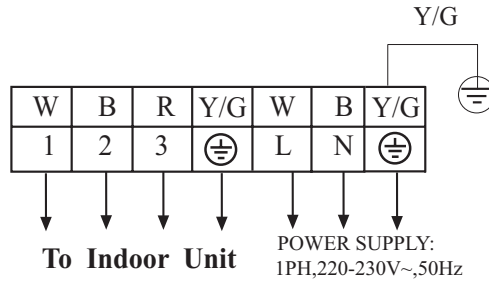
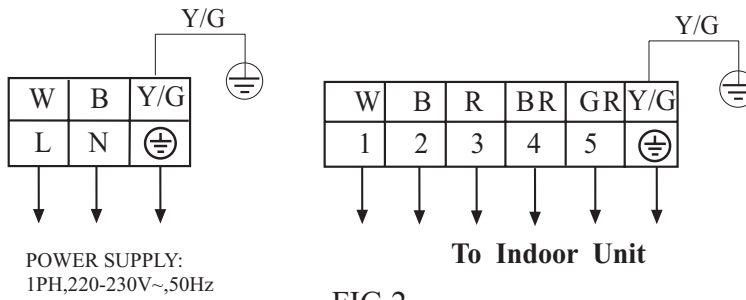
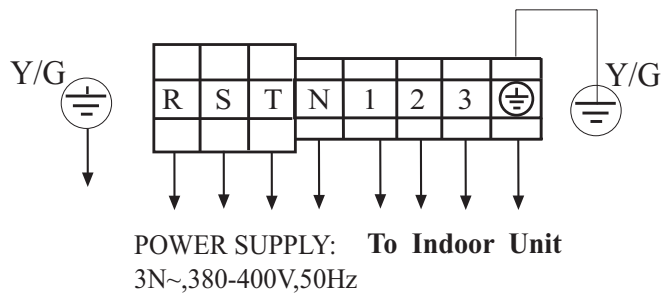

FIG.1
FIG.2
FIG.3
DO NOT CONNECT THE NEUTRAL WIRE (N) TO (R) , (S) OR (T) PHASE. INTERCONNECTING WIRES MUST BE WIRED ACCORDING TO FIG.1 FIG.2 FIG.3.FIG.4.INCORRECT WIRING CAUSE EQUIPMENT DAMAGE.
(3) Wiring procedure